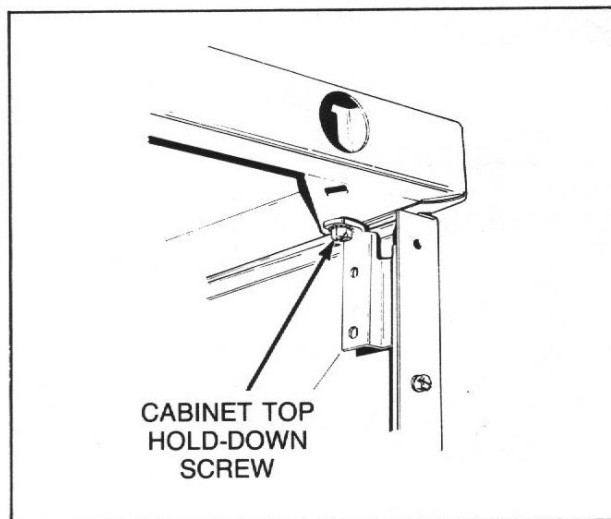

Figure 7
- c. Remove two cabinet top hold-down screws, *Figure 7*.
- g. Remove two cabinet top hold-down screws, *Figure 7*.
- e. Remove two cabinet top hold-down screws, *Figure 7*.
- f. Remove two cabinet top hold-down screws, *Figure 7*.
- Remove two cabinet top hold-down screws, *Figure 7*.